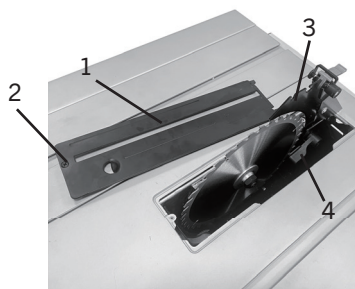

FIG. 5
The riving knife (3) (Fig.5), a safety feature on a table saw, is a thin, fixed metal plate mounted behind the saw blade. It helps prevent kickback by keeping the cut pieces of wood from pinching the blade or closing in on it during a cut.
1. To adjust the riving knife (3), remove the throat plate (1) (Fig.5) from the tabletop by unscrewing the pan head screw (2) and then pulling it upwards.
4. Unlock the riving knife lock lever (4) (Fig.5) by pivoting it upwards (vertical position).
5. Push the riving knife (3) (Fig.5) towards the lock lever (4) (Fig.5) to disengage it from its positioning pins/slots.
6. Pull the riving knife (3) (Fig.5) upwards until its bottom mounting holes engage the positioning pins, and the riving knife (3) is above the saw blade.
7. Engage the lock lever (4) (Fig.5) by pivoting it downwards (horizontal position). Once secured, make sure the riving knife is perfectly aligned with the center of the blade. If not, it is most likely due to misalignment of the positioning pins, re-adjust until alignment is obtained.
8. Reinstall and secure the throat plate (1) (Fig.5) with pan head screw.